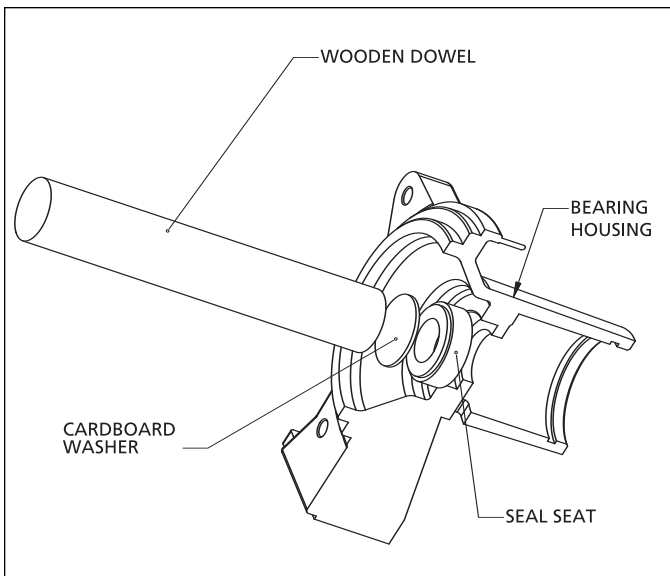

Figure 6 - Seal Seat Assembly
3. Wet the rubber portion of the new seal seat (part of Ref. No. 5) with a light coating of soapy water. While wearing clean gloves or using a clean light rag, press seal seat squarely into body recess (Ref. No. 4). Use the cardboard washer (usually supplied with new seal) to place over the polished ceramic surface and use a piece of pipe or dowel rod to press in firmly but gently (See figure 6). Avoid scratching the ceramic face, usually white.